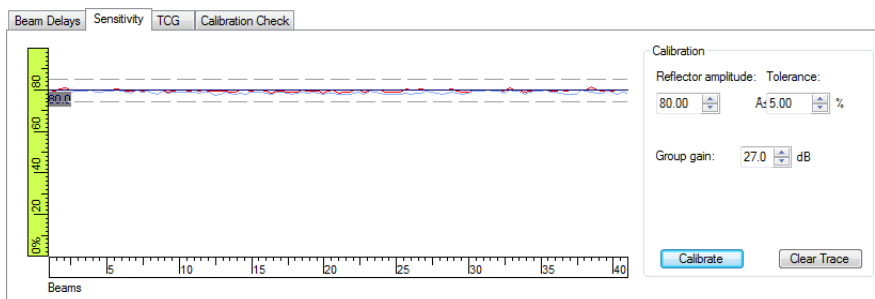

Figure 4-22 Curves for the sensitivity calibration
8. Perform a new scan above the reference reflector on the calibration block to validate the calibration by confirming that the red line appears within the tolerance lines (see Figure 4-22 on page 249).